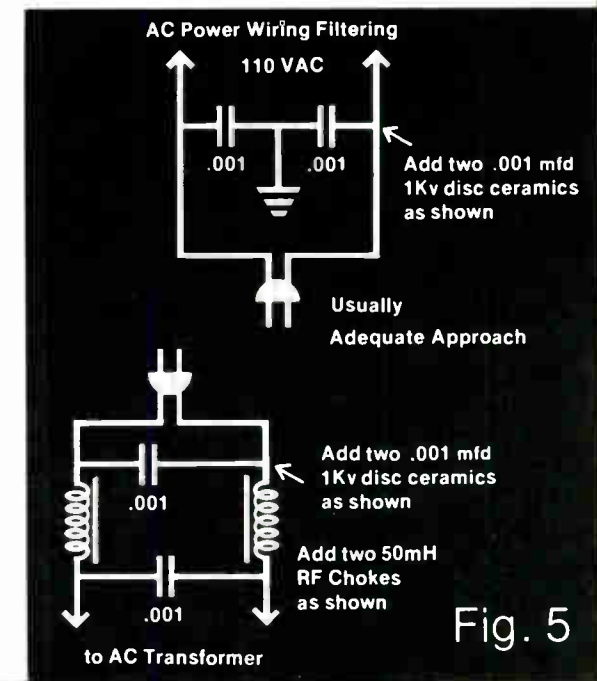

Fig. 5
1. An AC power line RF filter should be installed to determine if the RF from the transmitter is entering the TV via the power cord. (A line filter may be either purchased or one may be constructed by following the schematic in Figure 5.)
1. **RF** may be entering the audio device through the AC power line. Several power line filters are commercially available. If necessary, a power line filter like the one shown in Figure 5 may be constructed, placing the filter as close as possible to the point where the AC cord enters the amplifier.